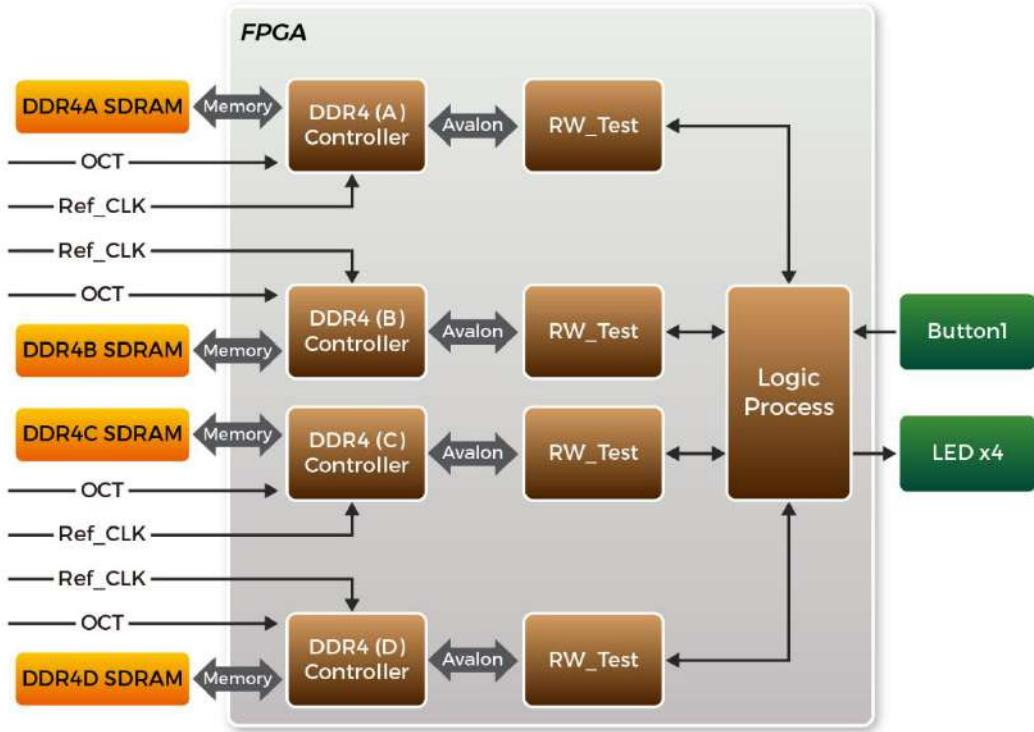

Figure 6-1 Block diagram of DDR4 SDRAM (8G) x4 demonstration
**Figure 6-1** shows the function block diagram of this demonstration. There are four DDR4 SDRAM controllers. The controller uses 166.667 MHz as a reference clock. It generates one 1333MHz clock as memory clock from the FPGA to the memory and the controller itself runs at quarter-rate in the FPGA i.e. 166.667 MHz.